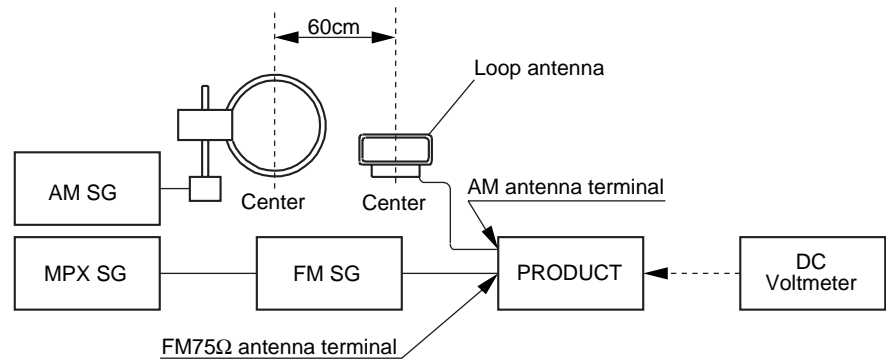

Fig.1 AM and FM Adjustment Wiring Diagram
- Connect the wiring as shown in Fig. 1.